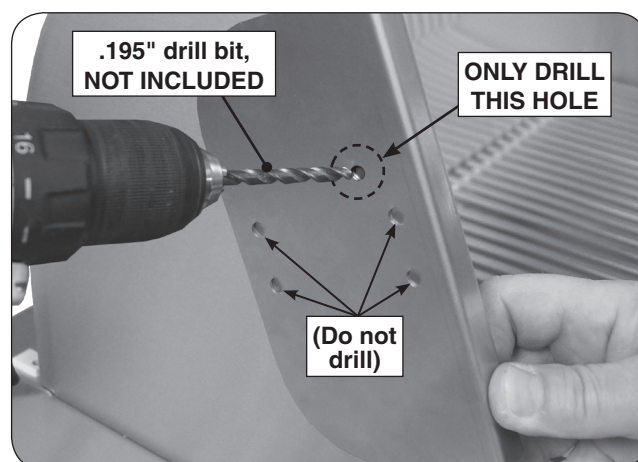

Fig. 2-4 Drill hole for spring mount (on oven base)
6. Using a .195" drill bit (**not included**), drill a hole through the base oven side wall as shown in Fig. 2-4.